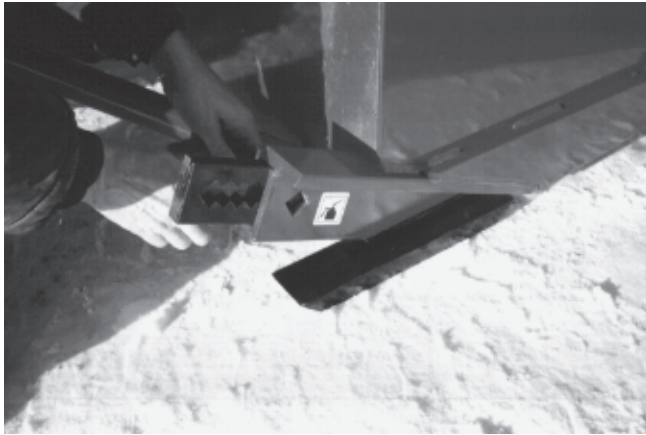

Figure 25
- 5) Adjust skid shoes according to ground conditions (Fig. 25).